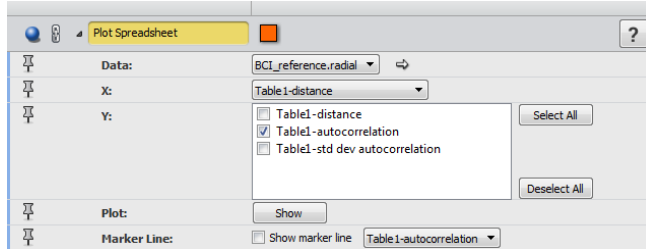

Figure 20.3: Plot Spreadsheet Module Properties
- Attach a *Plot Spreadsheet* module as shown in Figure 20.3